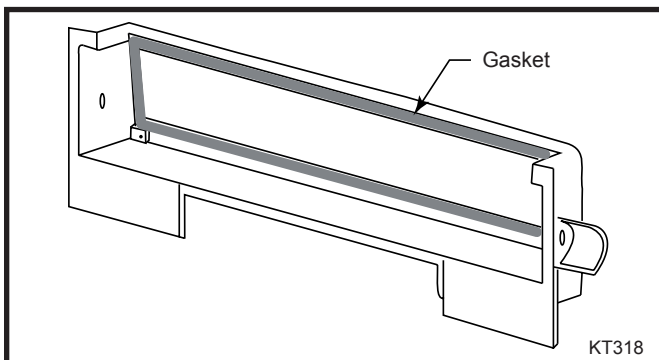

Fig. 9 Back view of upper fireback (damper and rod removed).
- Pull the damper rod out of the upper fireback. Release the bolts holding the steel tabs in place, and remove the damper. Pull off the old gasket and clean off the old cement. Thoroughly clean the damper plate and around the damper opening in the upper fireback. Cut a piece of the 5/16" gasket material to length, allowing a one inch excess. Place a continuous 1/8" bead of gasket cement in the damper gasket channel. Press the new gasket in place, trimming off the excess length. (Fig. 9) Remove any excess cement. Replace the damper, the steel tabs and bolts, and the damper rod. Close and lock the damper to seat the gasket. Use waxed paper between the damper and the upper fireback to keep the cement from traveling through the gasket and sticking to the fireback.